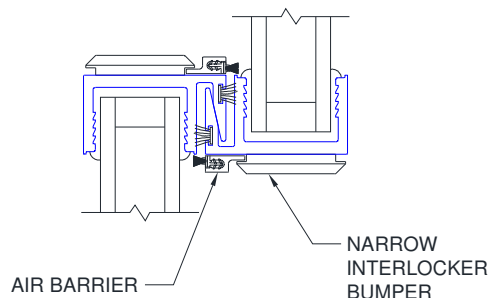

Figure D1:
1. See Figure D1 and D2 for locations where the air barrier can be placed.